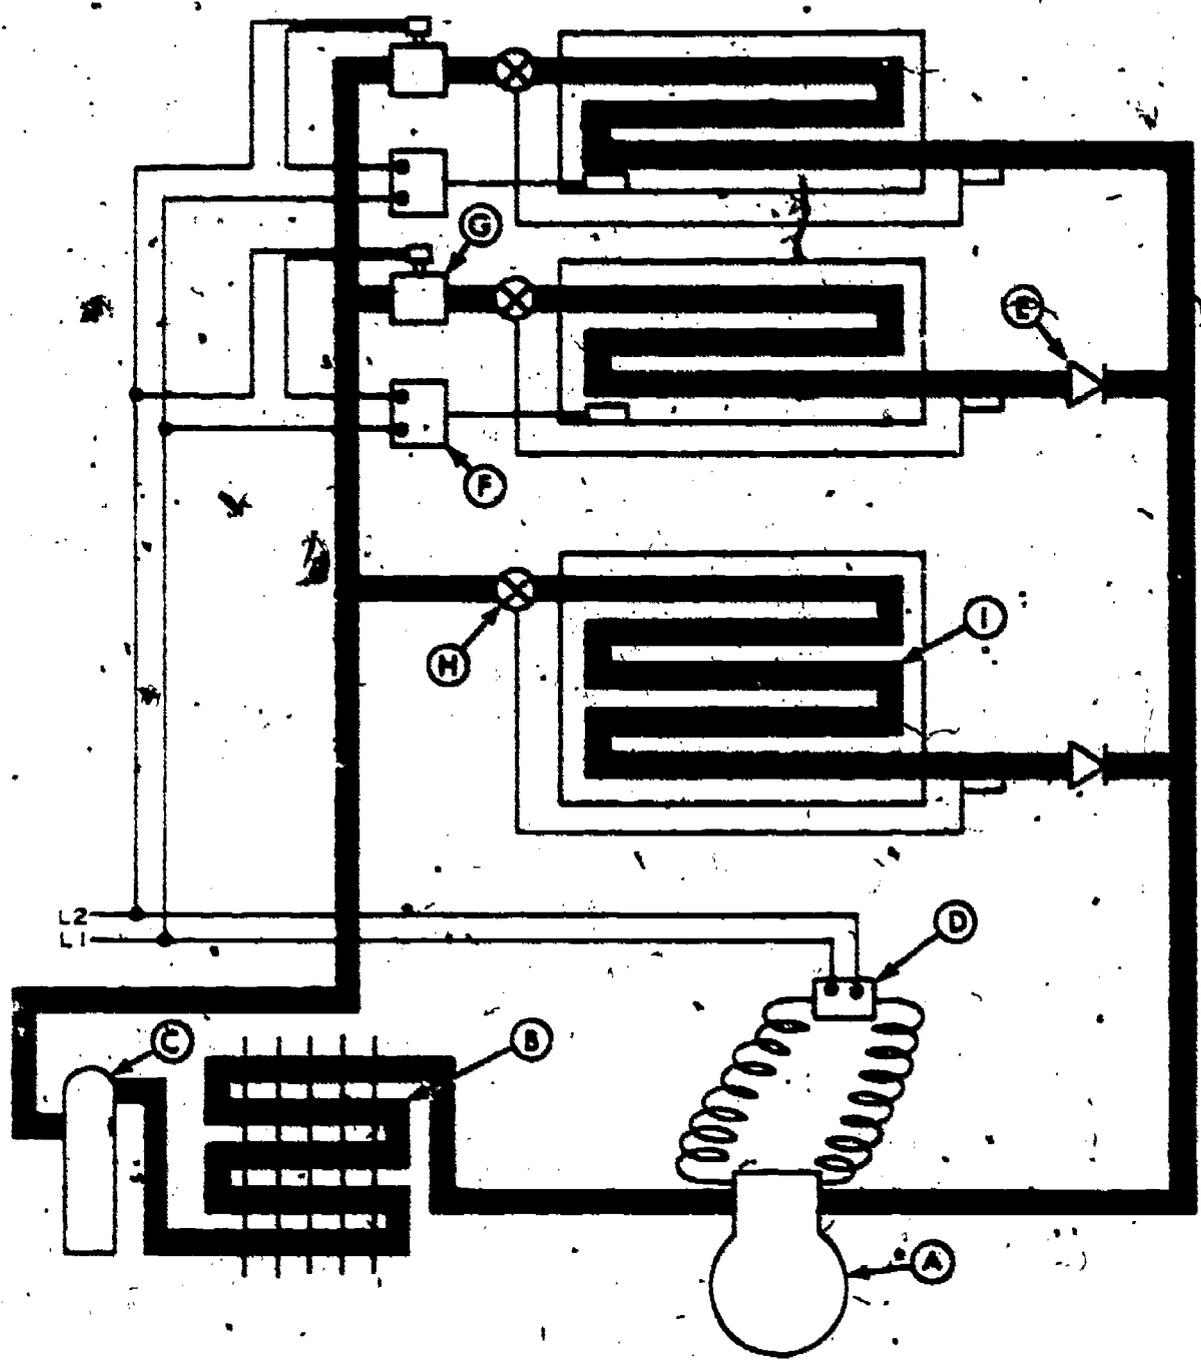

Figure 4. Solenoid Valve Multitemperature System (Liquid Line)
- 1. Use the schematic of a solenoid valve multitemperature evaporator system in figure 4.
1. Study the wiring diagram in figure 4 of SG 3ABR54530-VI-1.